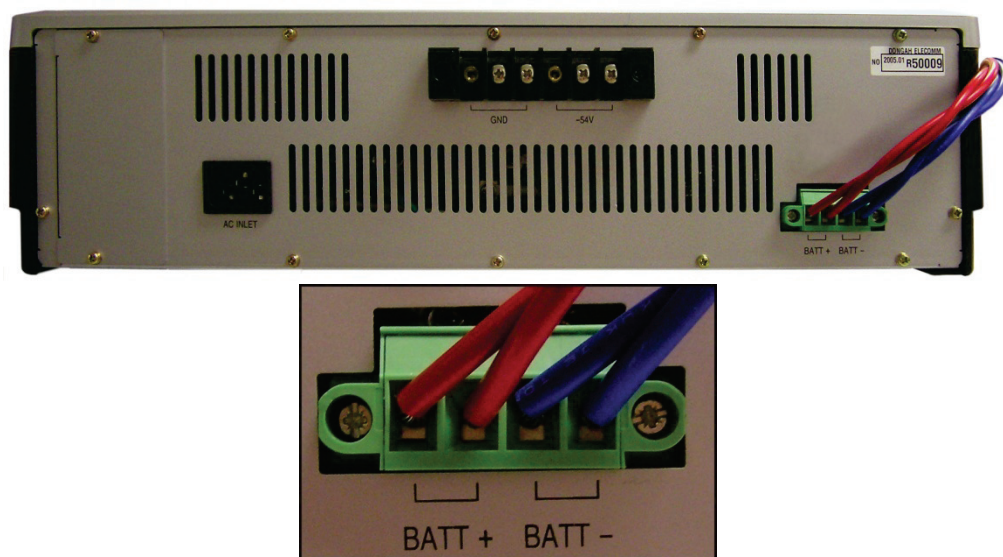

Figure 5.11 Connecting an External Battery
- 2) Connect the green connector into the battery connection port of the OfficeServ 7150. The connector is keyed so you can only insert it in one way. Press it in until it is pushed in all the way (see Figure 5.11). At the other end of the battery cable, connect the red wire to the (+) positive terminal lug of your battery, and connect the blue wire to the (-) negative terminal lug of your battery.